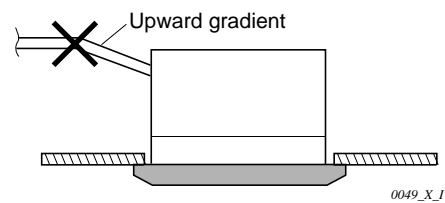

Fig. 3-30
- Do not install the pipe with an upward gradient after the connection port. This will cause the drain water to flow backwards and leak when the unit is stopped. (Fig. 3-30)